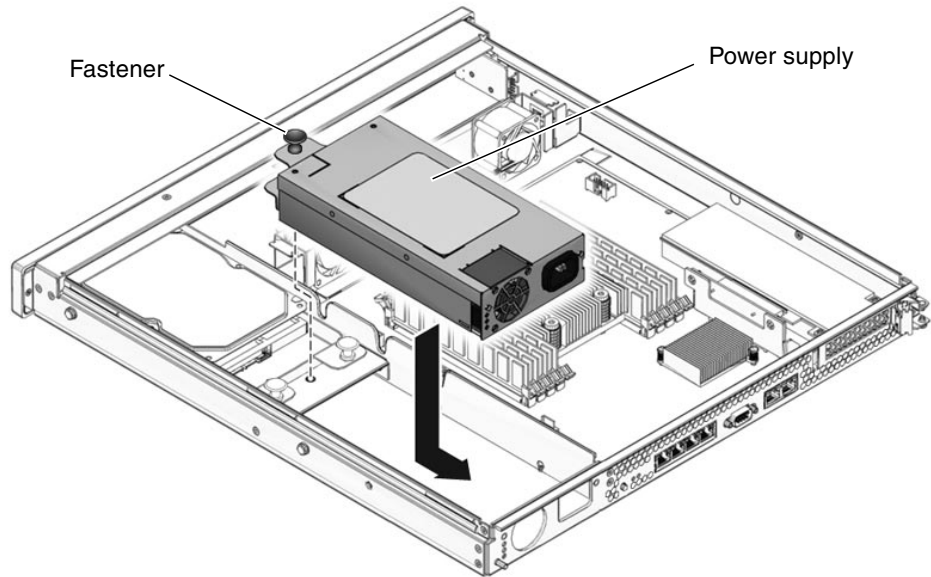

FIGURE 5-5 Installing the Power Supply
3. Push the fastener down on the front of the power supply to lock it into place in the chassis (FIGURE 5-5).